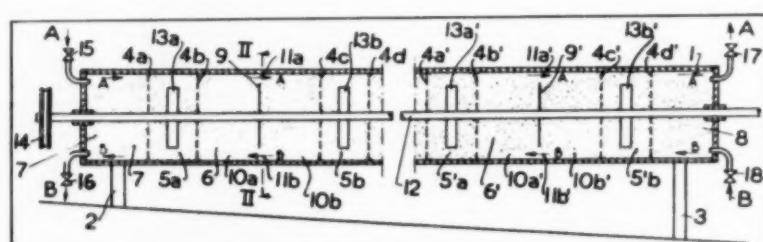

Fig. 15.
The fluids flow countercurrently by gravity in all sections of the nearly horizontal mixer-settler shown in Figure 15 (13). It is a cylindrical shell with supports (2 and 3) subdivided by partitions (4a, 4b, 4c, 4d, 4a', 4b', 4c', 4d', etc.) formed of perforated plates or sieves to provide alternating mixing and settling zones. A common shaft (12) carries agitators (13a, 13b, 13a', and 13b') such as propellers, paddles, or rods, and is turned by pulley (14) to provide mixing in the mixing zones.